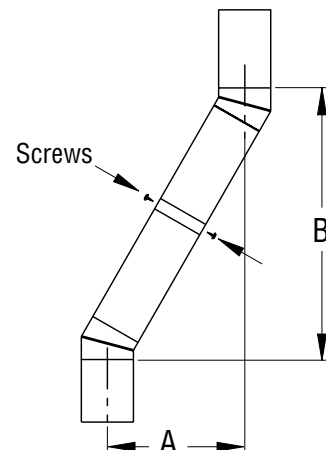

Figure 7 - Elbow Offset
assure joint between chimney sections is locked. Check by pulling chimney upward after locking. Chimney will not come apart if properly locked. It is not necessary to add screws to keep chimney together (exception, see Figure 7).
- All pipe connections between the offset and return must be secured with two screws on the outer pipe only (see Figure 7, page 7). Do not penetrate the inner stainless.